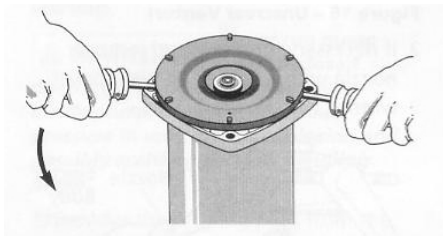

Figure 17A-Remove mechanical seal
3. Remove rotating half of seal by placing two screwdrivers under seal plate and carefully prying up (See Figure 17A). Seal plate will slide off shaft.